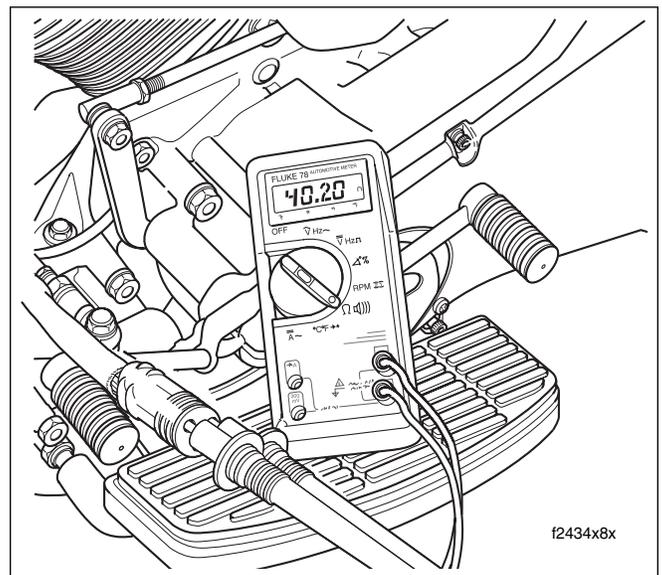

Figure 1-17. Check AC Output
1. See Figure 1-17. To test AC output: